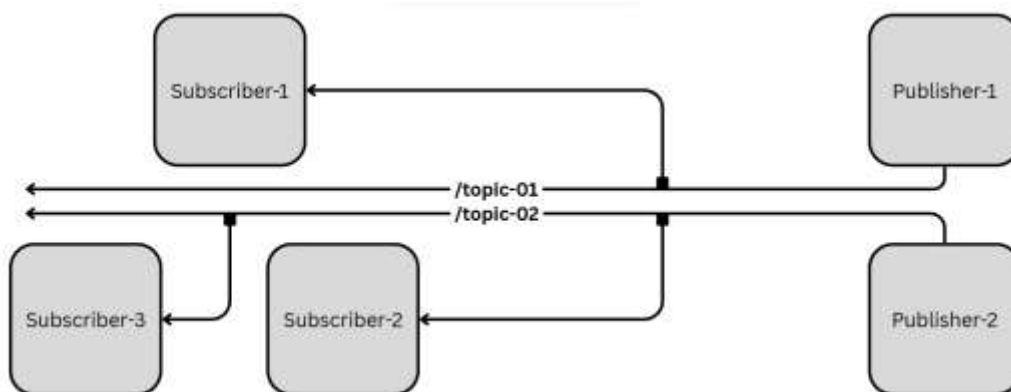

Fig. 2 Topics
1) *Topics* : Topics are like FM radio, subscribers can choose their publishers. Topics are usually used by sensors and actuators, as they need to be non-blocking and have a simpler interface. Logging and visualization is also another use case of these [Fig 2].